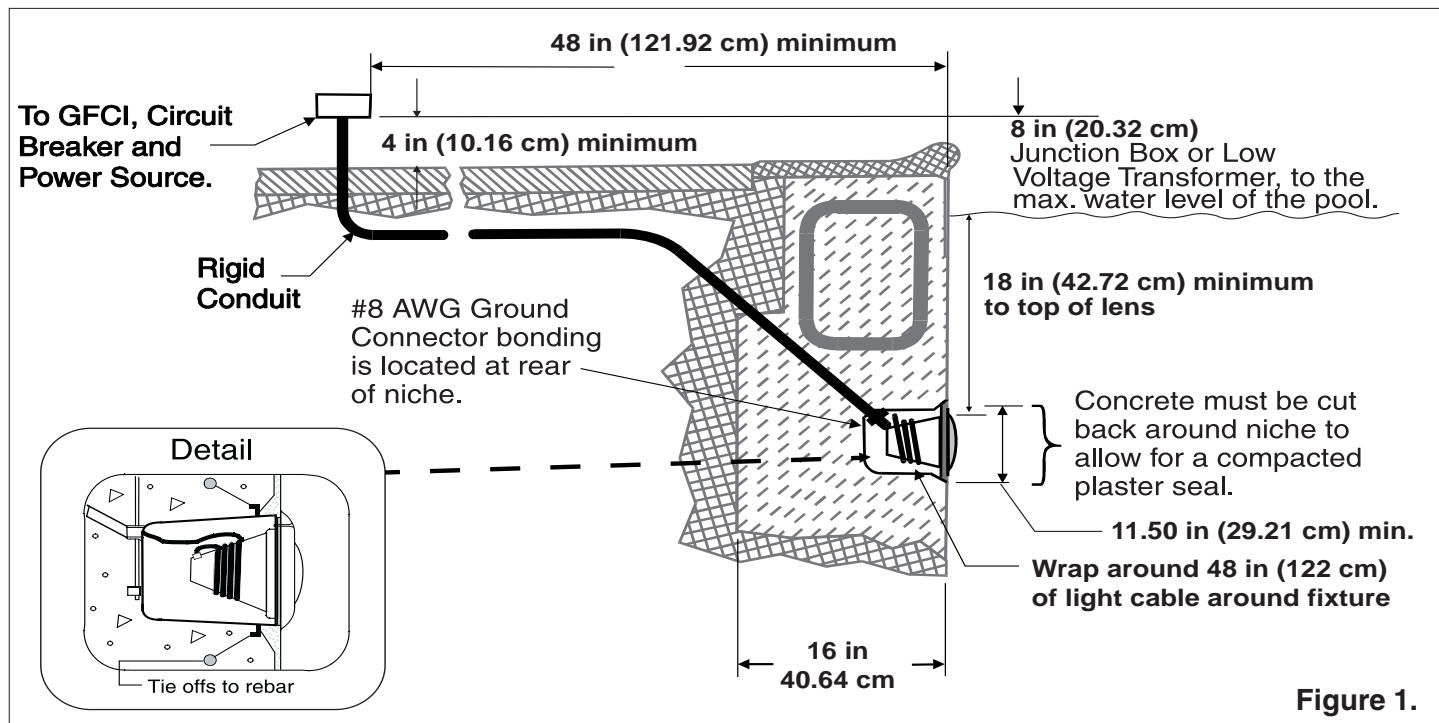
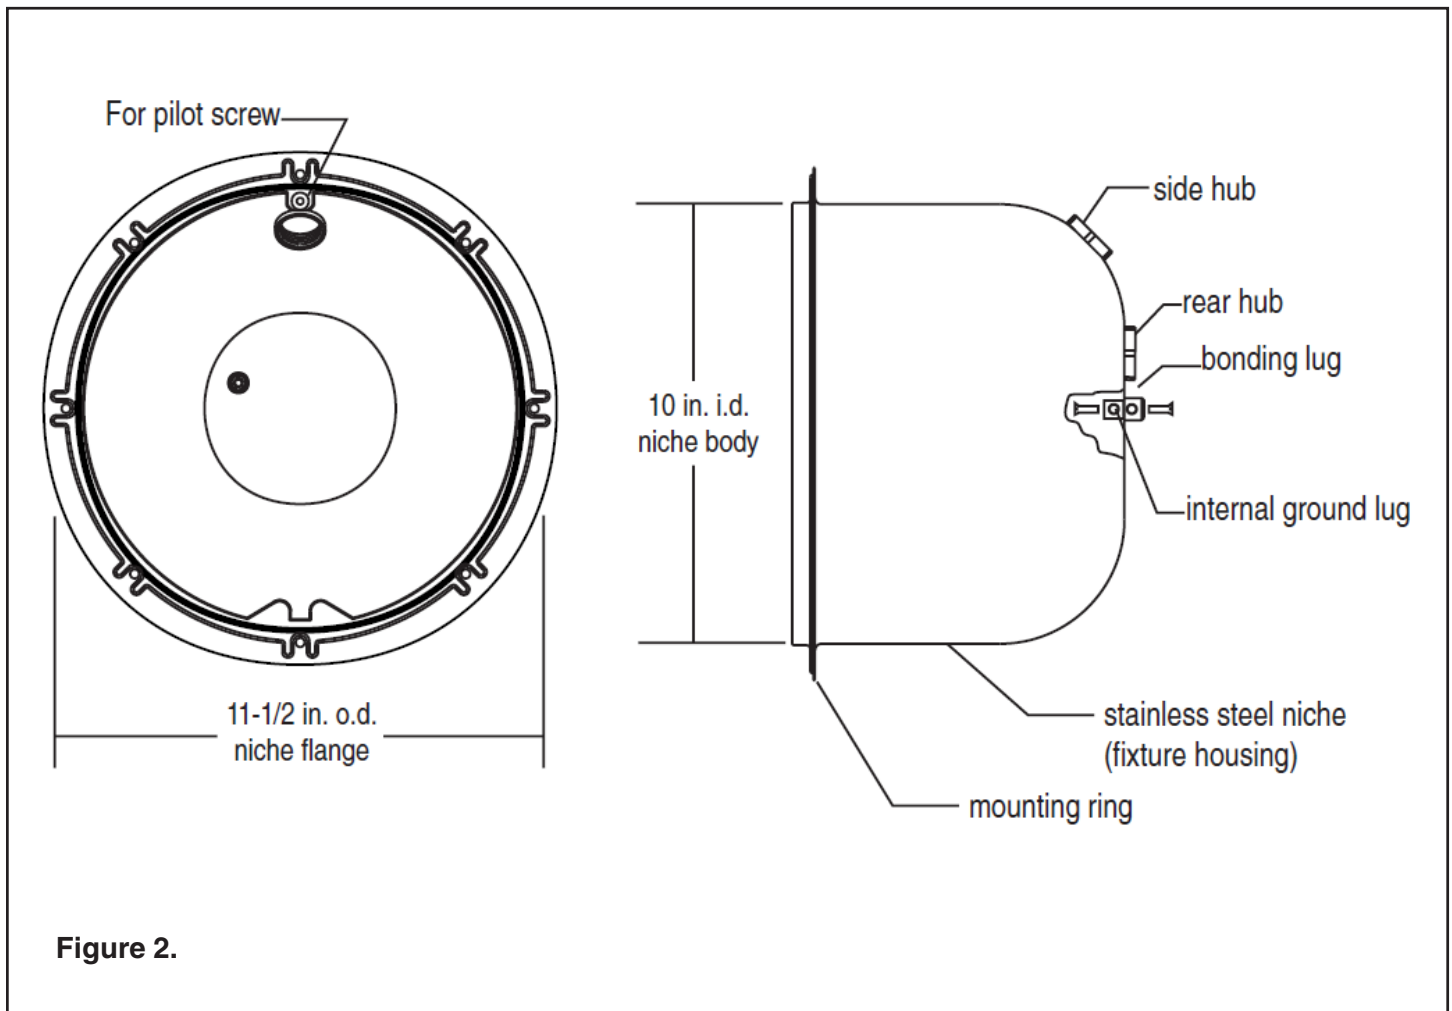

Figure 1.
Figure 2.
2. The junction box or the low voltage transformer shall be located at least eight (8) inches above the maximum water line and at least four (4) inches above the ground level or pool deck whichever provides the greater elevation. The junction box shall be no less than 48 inches from the inside wall of the pool, unless separated from the pool by a solid fence, wall or other permanent barrier. See NEC 680.24 code requirement. See Figure 1.
3. The light fixture and all metal items within five (5) feet of the pool must be properly electrically bonded. See NEC 680.26 code requirement. See Figure 1.
4. The niche must be properly installed so the pilot screw hole is at the 12 o'clock position and that the top edge of the underwater light's lens is at least 18 inches below the surface of the water in the pool. See Figure 1.
5. Bond the niche-fixture housing to all other metallic items within five (5) feet of the pool, using a No. 8 AWG bond wire. The Bond connection is located at the rear of the niche, see Figure 1.
- B. Orient the niche so the pilot screw hole is at the 12 o'clock position, see Figure 1.
- E. Bond the niche-fixture housing to all other metallic items within five (5) feet of the pool, using a No. 8 AWG wire. Bond connection is located at the rear of the niche.
- F. If non-metallic conduit is used, a No. 8 AWG bonding/grounding wire must be installed through the conduit from the Junction Box to the bonding/grounding lug inside the niche. Seal the wire/lug connection with a listed sealant such as a UL Listed two component epoxy potting and encapsulating system or equivalent, to protect the connection from possible pool water corrosion. See Figure 2.